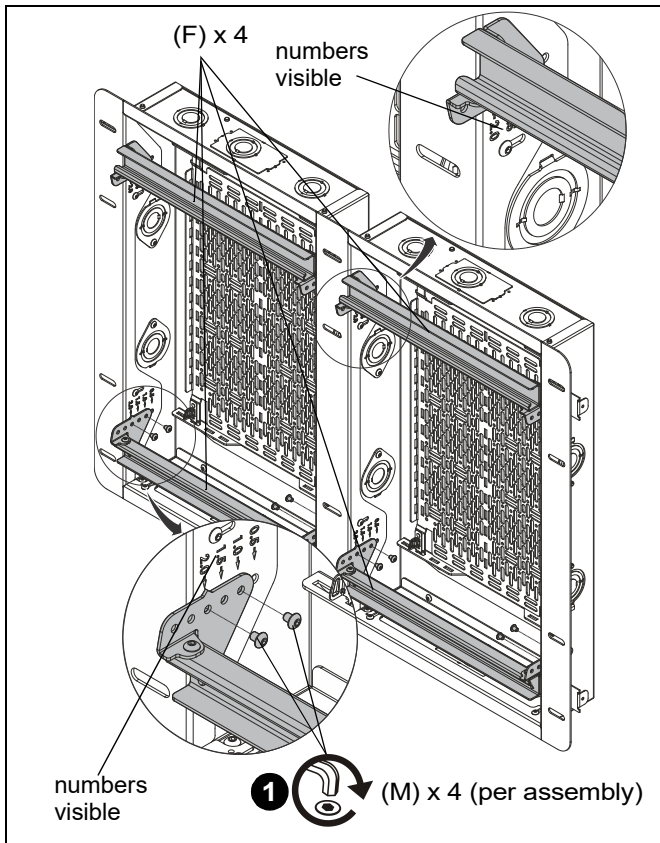

Figure 17
- Use four #10-24 x 1/4" button head cap screws (M) to secure each in-wall rail assembly (F) to boxes. Install into appropriate holes based on desired display installation depth. (See Figure 17)